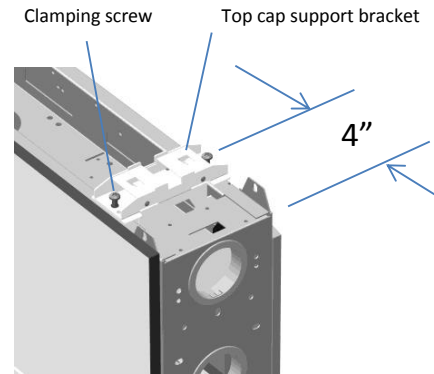

Figure 41
Attach a top cap support bracket to each end of the core wall's top channel. Locate the brackets 4 inches from each end of the core wall section. The hooks on the bracket engage the channel's vertical flanges. To retain the brackets in place, tighten the (2) Phillips head clamping screws on each bracket. See figures 41 and 42.